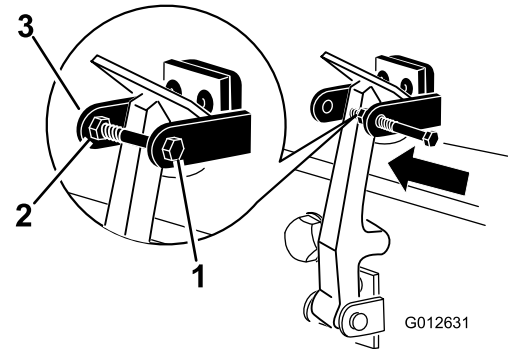

Figure 18
7. Screw the bolt into the other arm of the hood-lock bracket to lock the latch in position (Figure 18).